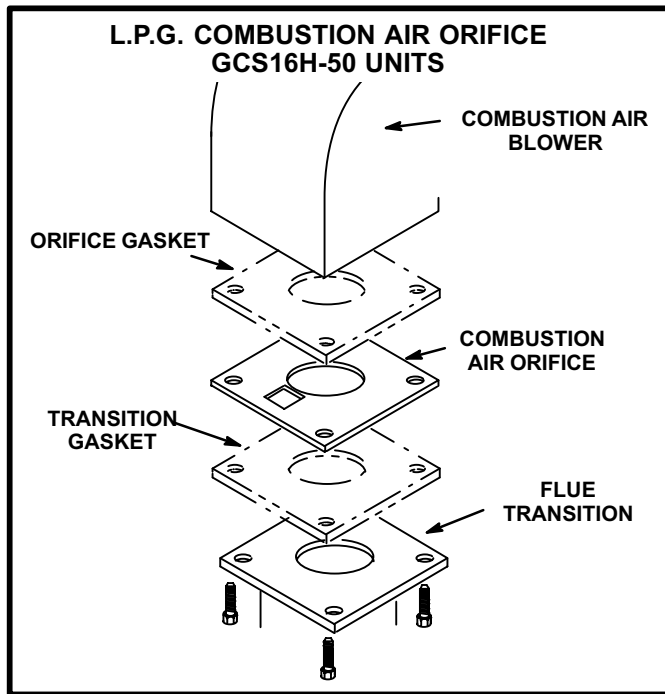
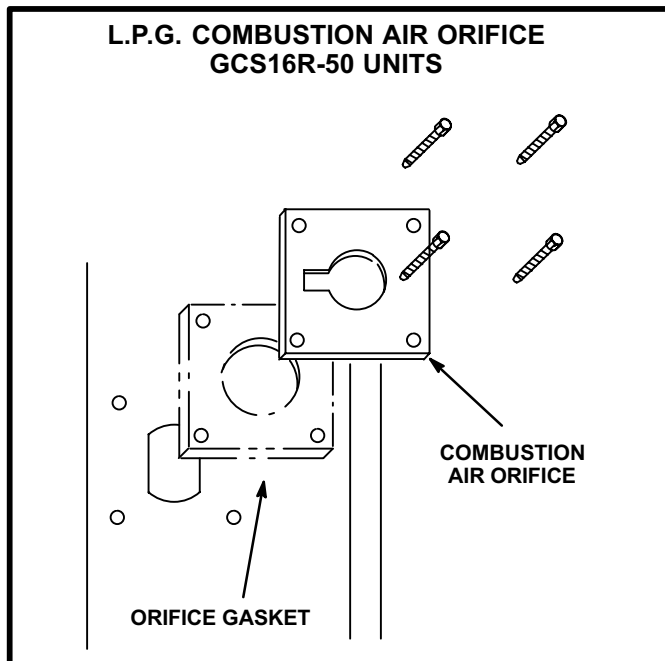

FIGURE 62
FIGURE 63
L.P.G. conversion of 50K Btuh heat exchangers requires a new combustion air orifice. In GCS16H-50 units, the orifice is located between the combustion air blower and the flue transition as shown in figure 62. In GCS16-50 and GCS16R-50 units, the orifice is located outside the cabinet between the outer mullion and the flue vent as shown in figure 63.